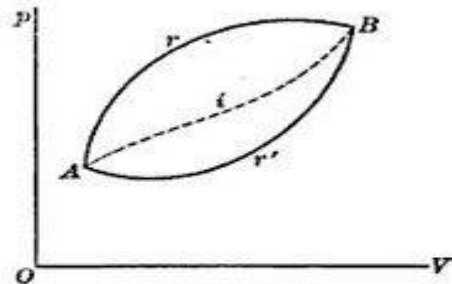

FIG. 20.
**The Inequality of Clausius.** — If an actual irreversible change be represented by the path *i*, Fig. 20 (assuming it to be possible to give such a representation), a correct value of the change cannot be obtained from the integral  $\int_{\tau_1}^{\tau_2} \frac{dQ_i}{T}$  taken along the path *i*. For as we have seen